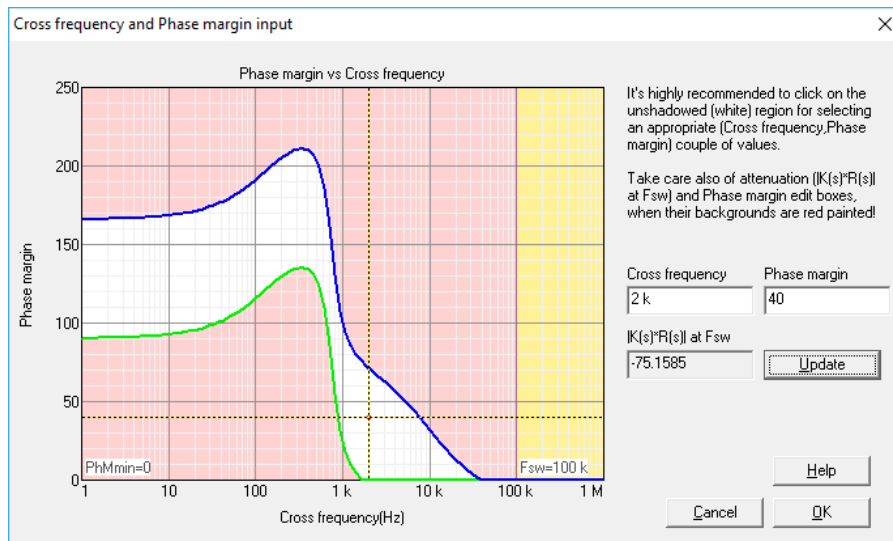

Figure 5: solution map point
- d) Solution map: select $f_c=2\text{kHz}$ and $PM=40$ degrees. See Figure 5.